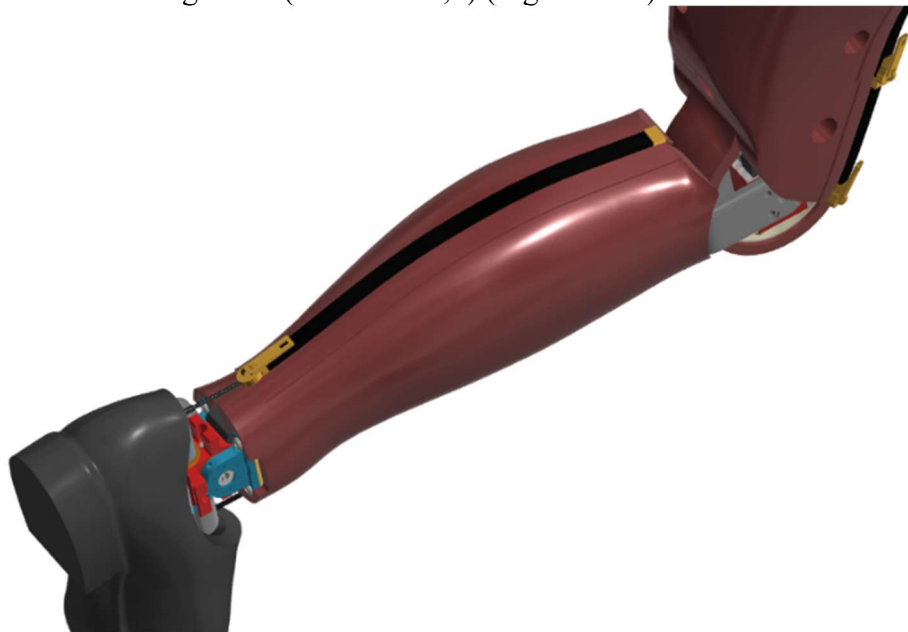

Figure 9-13. Unzip the Lower Leg Flesh (474-5520-1,2)
- 9.2.6 Unzip the Lower Leg Flesh (474-5520-1,2) (Figure 9-13).